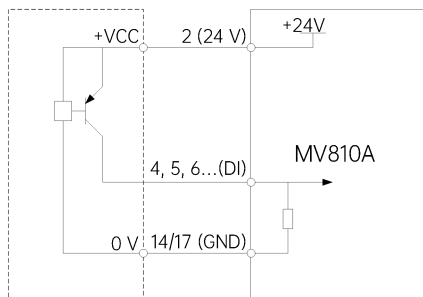

Figure 4-15 Wiring when using the internal power supply and the PNP type external controller
- ② Wiring when the internal power supply of the drive is used and the external controller adopts the PNP common emitter output, as shown in Figure 4-15.